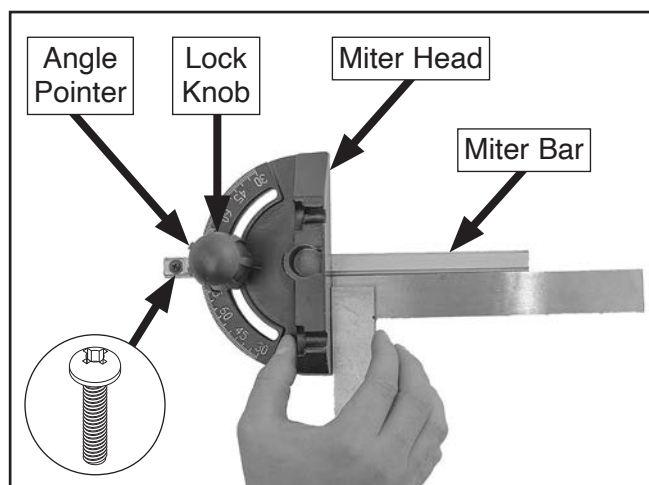

Figure 41. Example of squaring miter head to miter bar.
2. Hold square against miter head as shown in **Figure 41**.
6. Loosen screw securing angle pointer (see **Figure 41**).